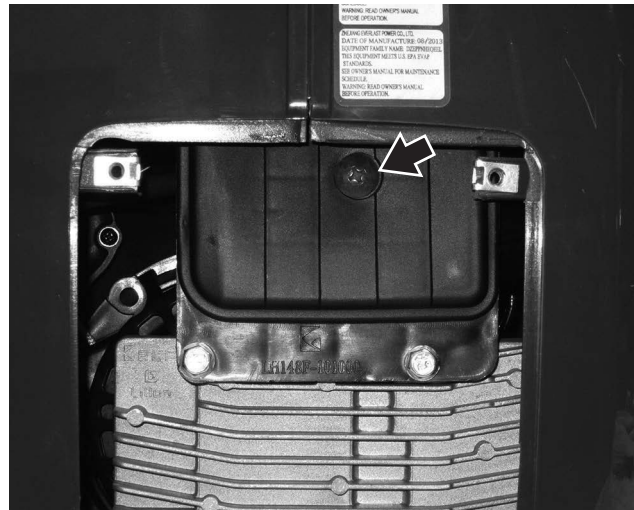

Figure 43 – Air Cleaner Cover
3. Remove the screw for the air cleaner cover and remove the cover (see Figure 43).